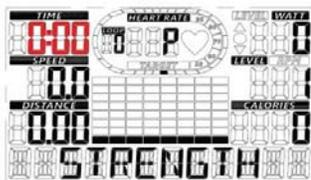

Fig. 23
- (b) To set time, press UP (▲)/DOWN (▼) buttons (Fig. 23). When finish, press “SET” button to confirm and then press “START” to begin the workout.